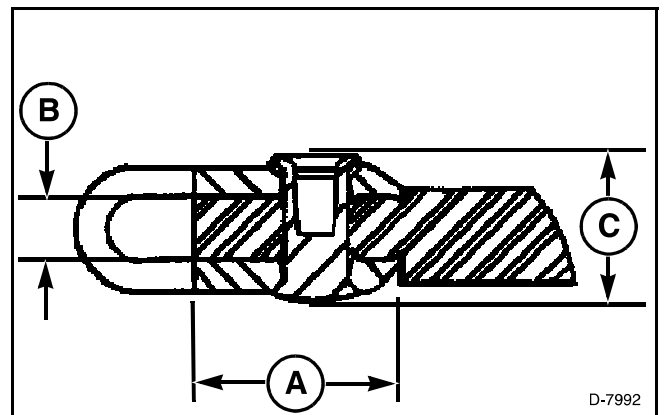

FIG. 7
FIG. 7: Use a sharp knife or a grinder to remove the pattern from a 16 mm (11/16 in) strip (A) across the end of the forming belt. Be careful not to cut into the cord section of the forming belt or heat the belt excessively. The thickness (B) of the forming belt must be 5.72 mm (7/32 in) in the area where the lacing is to be installed.